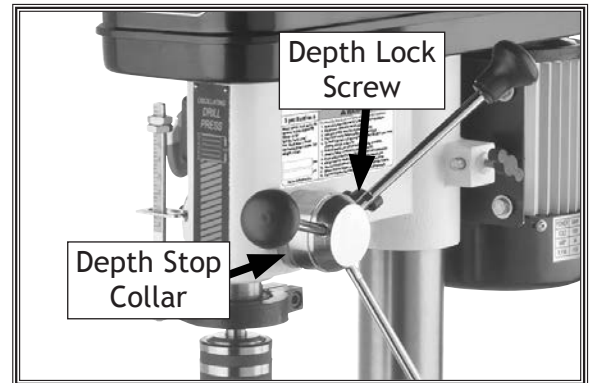

Figure 42. Location of depth stop collar and depth lock screw.
5. Loosen the depth lock screw (see **Figure 42**).
7. Turn the depth stop collar all the way clockwise (see **Figure 42**), then tighten the depth lock screw to keep the spindle in the lowered position.